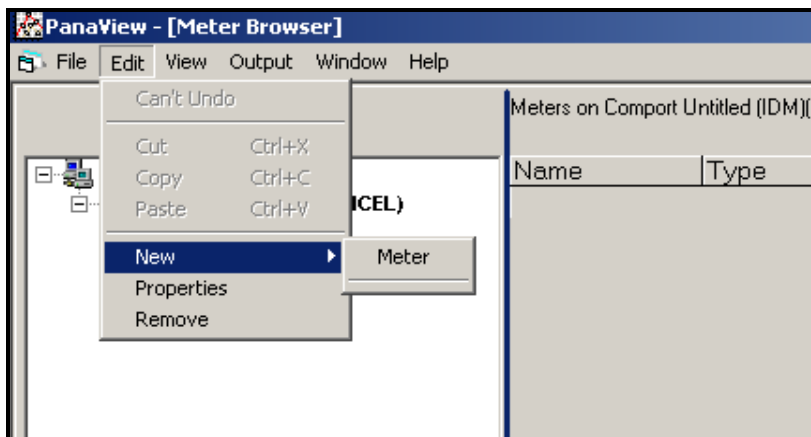

Figure D-4: “*New*” Option in the “*Edit*” Menu
2. Click on the “*New*” option in the “*Edit*” menu (see Figure D-4 below).